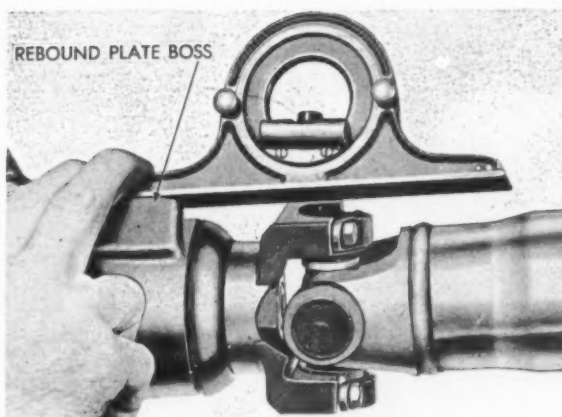

Fig. 8—Checking rear axle angularity.
3.—Place the protractor on the machined surfaces of the rebound plate bosses (Fig. 8).